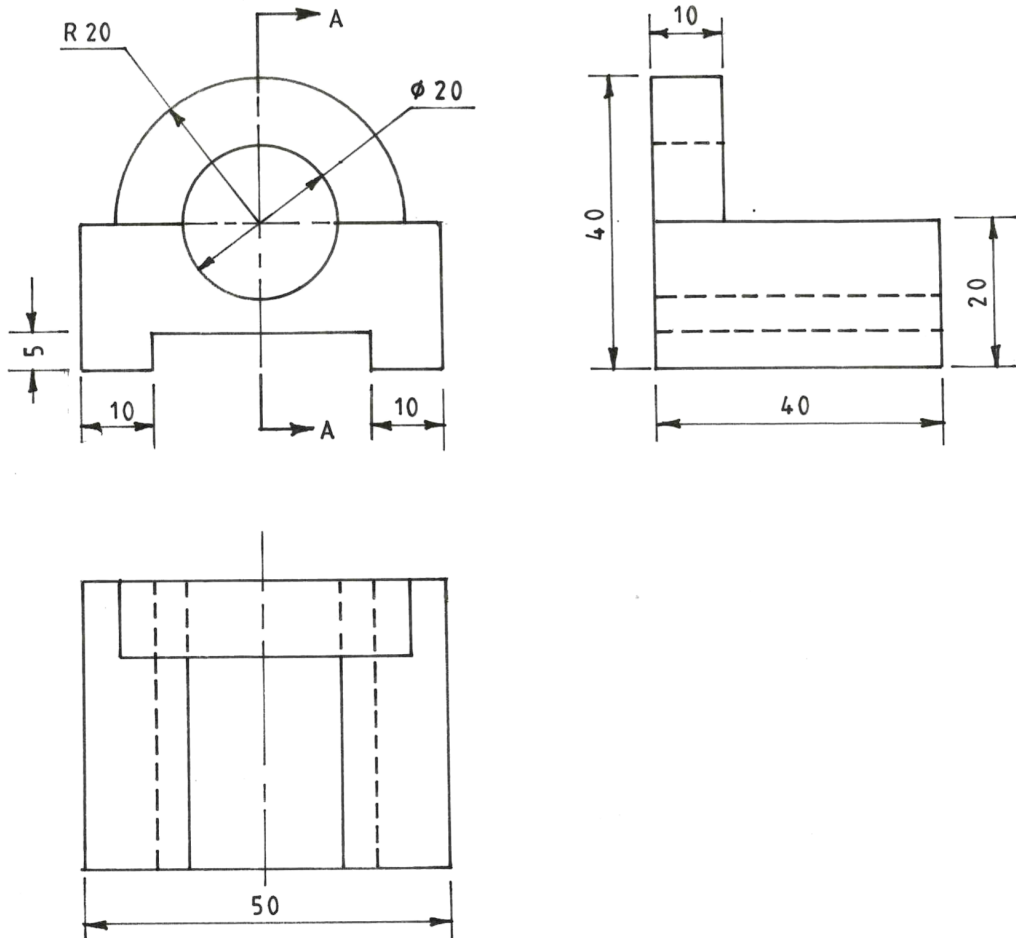

Fig. 1
- 11** Figure 1 shows orthographic views of a machined block drawn in first angle projection.